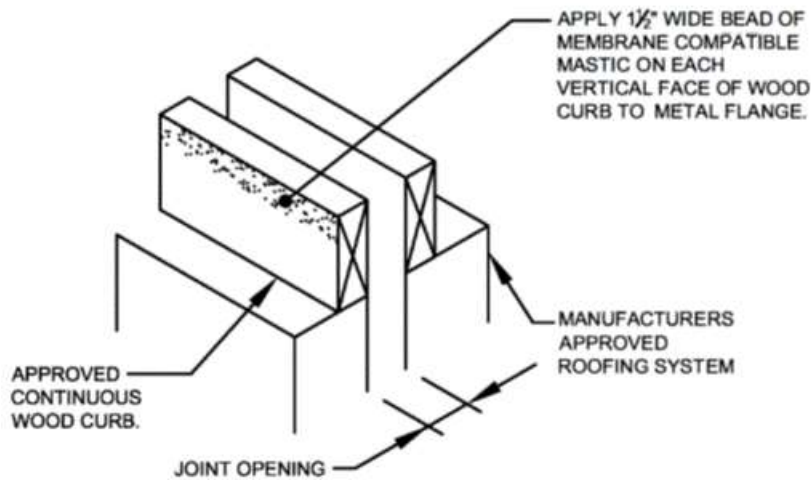

Figure 1.1
1. Apply membrane compatible mastic on horizontal surface of roof curb to receive metal flange. Install one flange at a time. **See Figure 1.1**